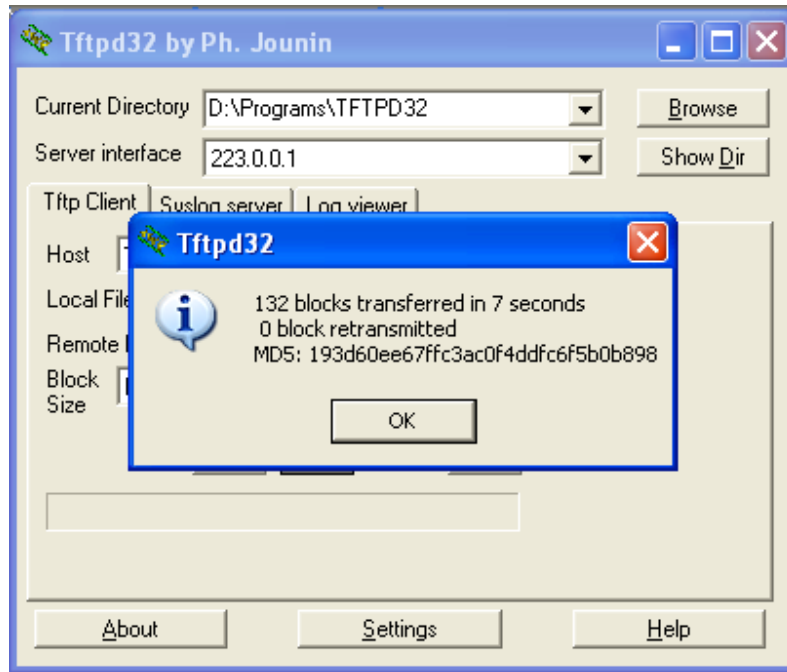

Figure 11 Tftpd32 utility, firmware transfer finish message window
- 3.1.7. After firmware file has been found, press “Put” button, it begin firmware upgrade process. If all sequence, that is described above, has been done successfully, after number of second delay you will see that yellow LED is blinking – this indicate that firmware upgrade process is running. After firmware process is finishing, yellow LED is switched off and data transfer finish message window is appearing (see **Figure.11**)